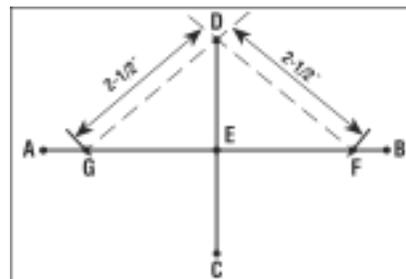

Fig. 2
2. Use the length of line EB (2-1/2') to mark points F and G by measuring from D. Place thumbtacks at F and G (Fig. 2).